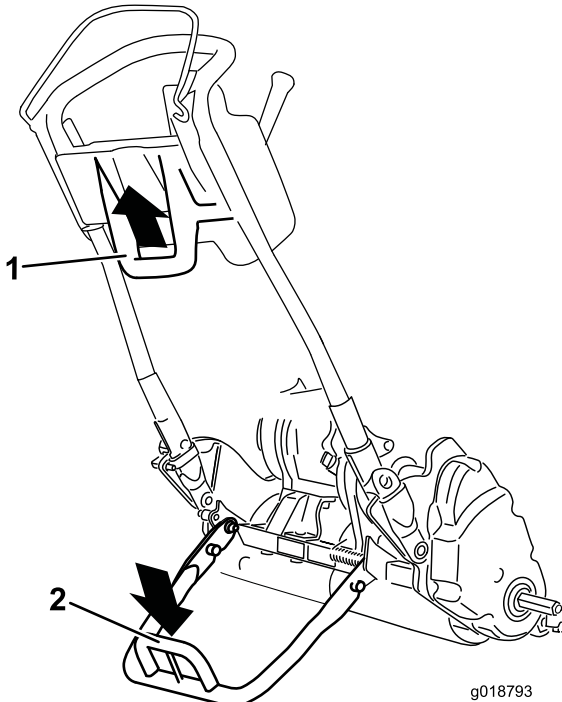

Figure 24
- To use the kickstand to install the transport wheels, lower it to the ground and step down on the kickstand loop while pulling up and back on the lower center machine handle (Figure 24).